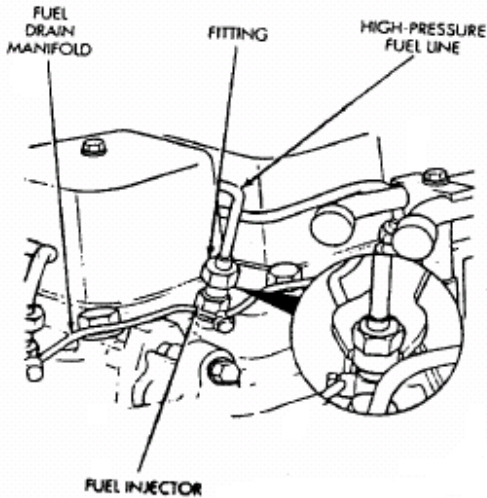

Fig 10: Fuel Lines at Fuel Injectors
- 4: Clean the area around each line. Disconnect each line at the top of each fuel injector. (Fig 10)